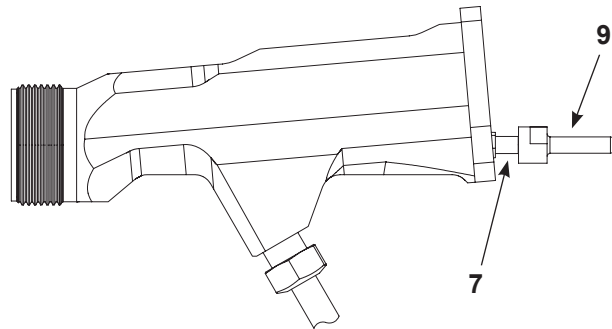
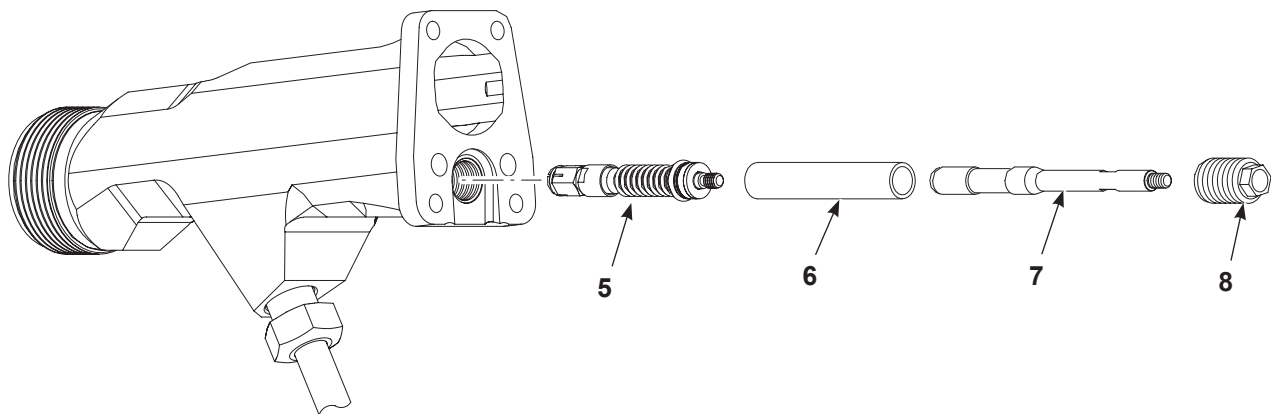

Figure 7-5 Packing Cartridge Replacement - Removing Trigger Puller
Figure 7-6 Packing Cartridge Replacement - Removing Cartridge From Extension and Pull Shaft
1. See Figure 7-5. Hold the pull shaft (7) with pliers while unscrewing the trigger puller (9).
2. See Figure 7-6. Unscrew the packing cartridge retainer (8) from the extension.
2. See Figure 7-6. Screw the pull shaft (7) onto the packing cartridge (5).
4. Coat the pull shaft, except for the threaded end, with a liberal amount of dielectric grease, then install the sleeve (6) over the pull shaft and up against the packing cartridge.
6. Coat the inside diameter of the packing cartridge retainer (8) and the end of the pull shaft (7) with MagnaLube-G or equivalent grease.
9. See Figure 7-5. Apply a removeable threadlocking adhesive (Loctite 242 or equivalent) to the threads of the pull shaft and screw the trigger puller (9) onto the pull shaft.